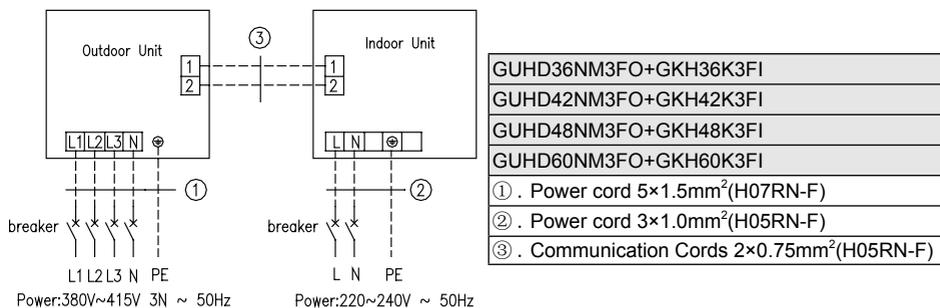

Fig.41
① . The power cord and the wire of the fresh air valve are high-voltage, while the communication cord and connection wire of the wired controller are low-voltage. They should run separately against electromagnetic interference.
② . The high-voltage and low-voltage lines should pass through the rubber rings at different electric box covers.
③ . Do not bundle the connection wire of the wired controller and the communication cord together, or arrange them in parallel, otherwise improper operation would occur.
④ . The high-voltage and low-voltage lines should be fixed separately and securely, with internal big clamps for the former and small clamps for the latter.
⑤ . Tighten the indoor/outdoor connection cord and power cord respectively on the terminal boards with screws. Faulty connection may cause a fire.
⑥ . If the indoor unit connection cord (to the outdoor unit) and power supply are wired incorrectly, the air conditioner may be damaged.
⑦ . Connect the indoor unit connection cord properly based on the corresponding marks as shown in Fig.41.
⑧ . Ground both the indoor and outdoor units by attaching a ground wire.
⑨ . Unit shall be grounded in compliance with the applicable local and national codes.